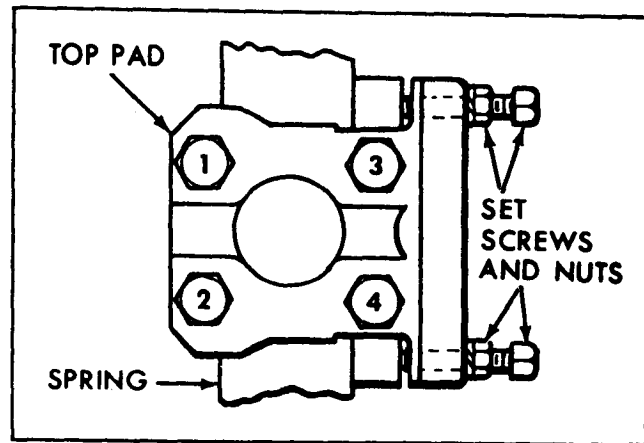

Figure 11—Top Pad Bolt Torque Sequence
6. Tighten top-pad-to-saddle bolts in sequence (figure 11) to torque listed in "Specifications" at the end of this section. Hold nuts at bottom while using torque wrench on bolt heads at top.